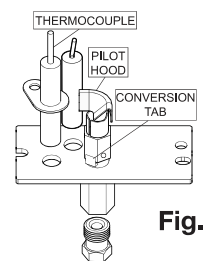

Fig. 3
- 5. Use 7/16" wrench to loosen the pilot hood until the conversion tab slides easily (**Fig. 3**). Slide the tab to the fuel desired.